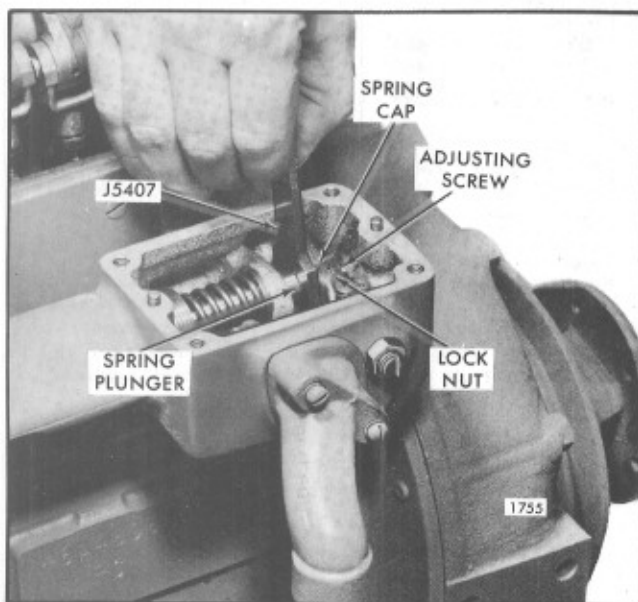

Fig. 1 - Adjusting Gap (Single Weight Governor)
6. Check the gap between the low-speed spring cap and the high-speed spring plunger with gage J 5407 (.170") as shown in Fig. 1.